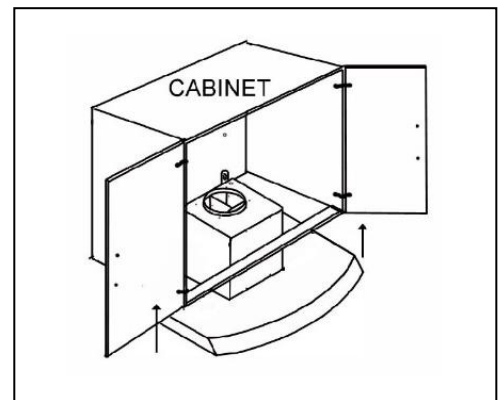

Figure 2
12. Secure two 4*35 screws (provided) inside the cabinet leaving 1/8" away from the cabinet as shown on Figure 2.
13. Align hood-mounting bracket to the mounting screws inside the cabinet and hook the hood into place. Secure and tighten the mounting screws. (Figure 2).